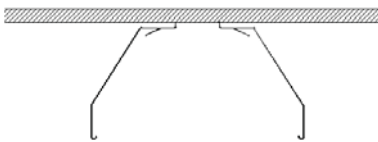

Fig 4
2. Attach steel mounting bracket to ceiling (Fig 4) (hardware provided by others).